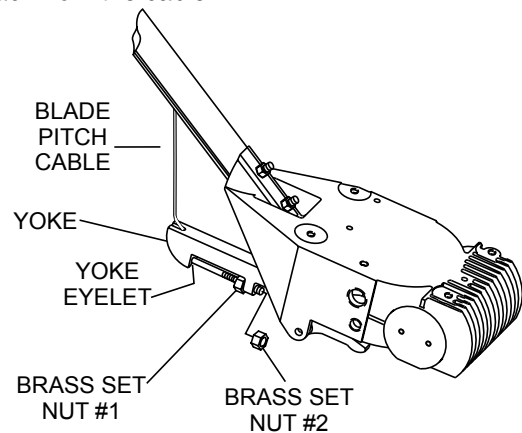

Figure 8. Cable Yoke Attachment
5. Insert the cable end through the yoke eyelet (Figure 8). Tighten brass set nut #1 by hand to remove all the slack from the cable.
1. For trowels equipped with a **Edger-Standard** handle (SXHSe), simply turn the **star wheel** counterclockwise to pitch the blades flat. This will release the tension on the blade pitch cable (Figure 8).